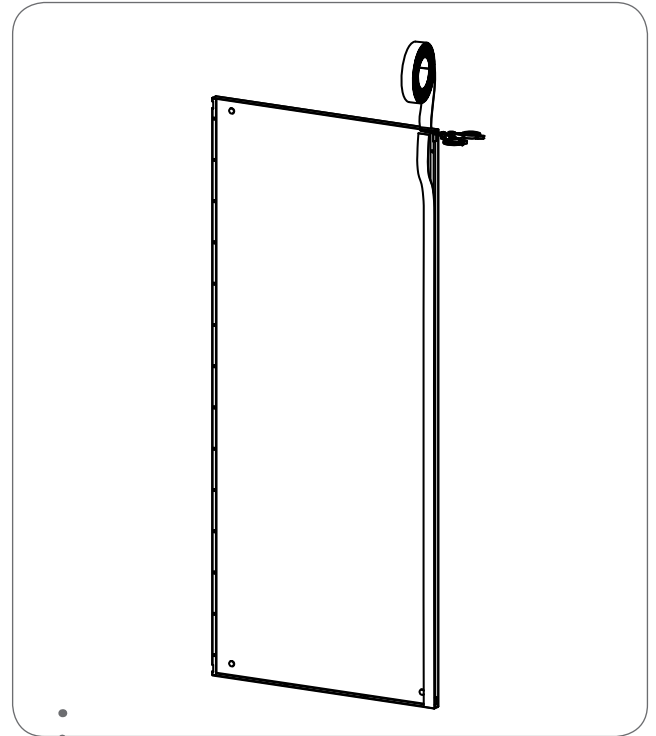

Fig 9.2. Sealing long sides of back plate for F-series cell centre with sealing strip (50020040 Joint sealing strip 0.8*20 mm).
Sealing strips (2) shall be glued to the long sides of the back plates (1) as shown in Fig. 9.2.